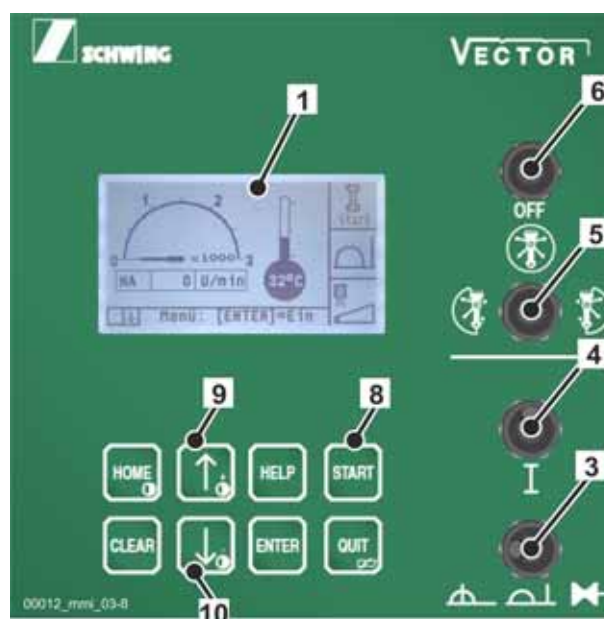

Fig. 521
- ▶ Using the START button (8) (**Fig. 521**), confirm that all outriggers have been extended correctly.
- Press the "START" button (8) (**Fig. 521**) to confirm that all outriggers have been extended properly.
- Release the work area by pressing the "START" button (8) (**Fig. 521**).